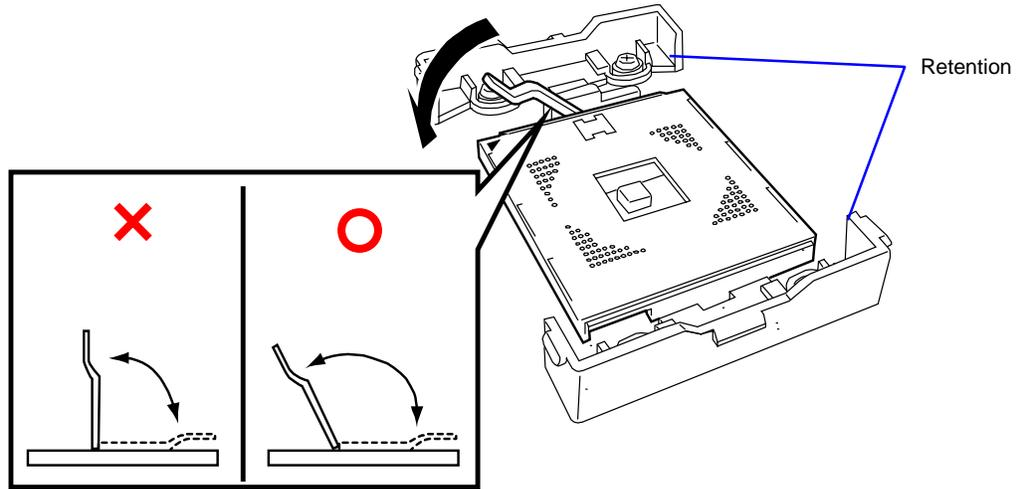

Figure 4-7. Raising the Locking Lever
10. Raise the locking lever on the socket. See Figure 4-7.